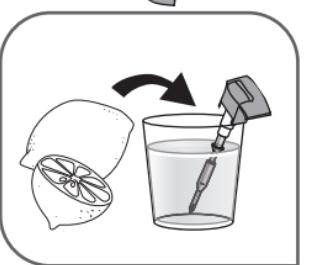

Fig.19
- Let the rod soak for four hours in a glass of white vinegar or natural lemon juice – fig.19.